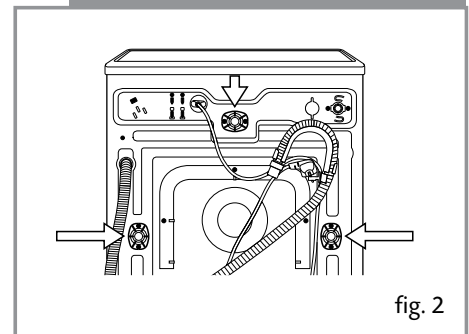

fig. 2
- Remove the screws holding the plastic covers to the back of the washing machine (Figure 2 and 3).
- Cover the holes with the plastic covers you have just removed (Figure 2).